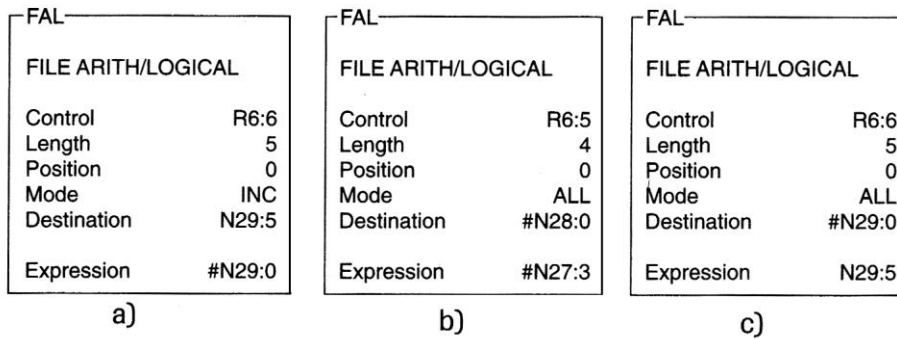

Figure 10-23
38. For each instruction shown in Figure 10-23, signify the type of FAL copy operation used (file to file, file to word, or word to file). 38a. _____